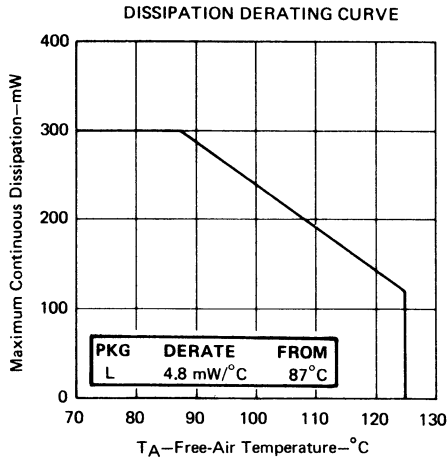

FIGURE 6
2. For operation of the SN55180 above  $70^{\circ}\text{C}$  free-air temperature, refer to Dissipation Derating Curve, Figure 6.